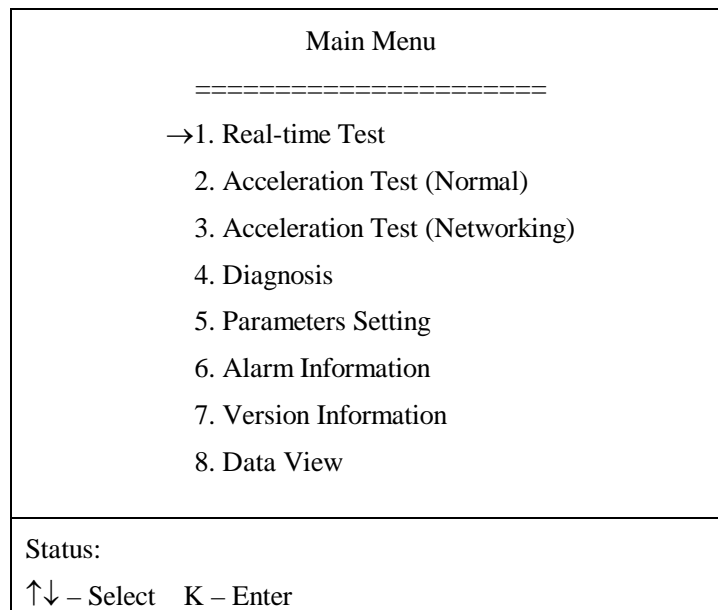
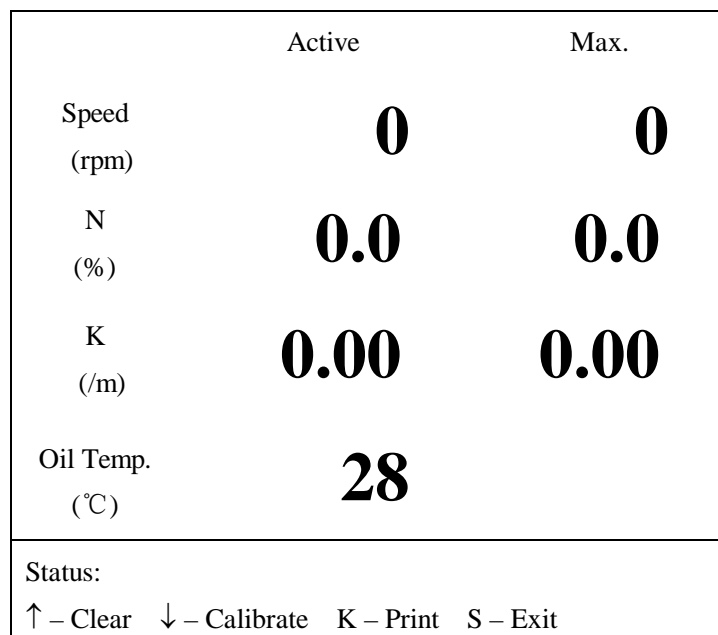

Fig. 8 Interface of “Main Menu”
Fig. 9 Interface of “Real-time Test”
1) After installing the instrument as described in Section 5.1 and warm-up in Section 5.2, the instrument enters the interface of Main Menu automatically (as shown in Fig. 8). Move the cursor “→” in front of “Real-time Test” by “↑” key or “↓” key (as shown in Fig. 8), press “K” key to enter the interface of Real-time Test. In this interface (as shown in Fig. 9), the transient value of opacity (N), light absorption coefficient (K), revolving speed, oil temperature, max. value of opacity (N), light absorption coefficient (K), revolving speed are displayed. Stable revolving speed test and single free acceleration test can be done in this interface.